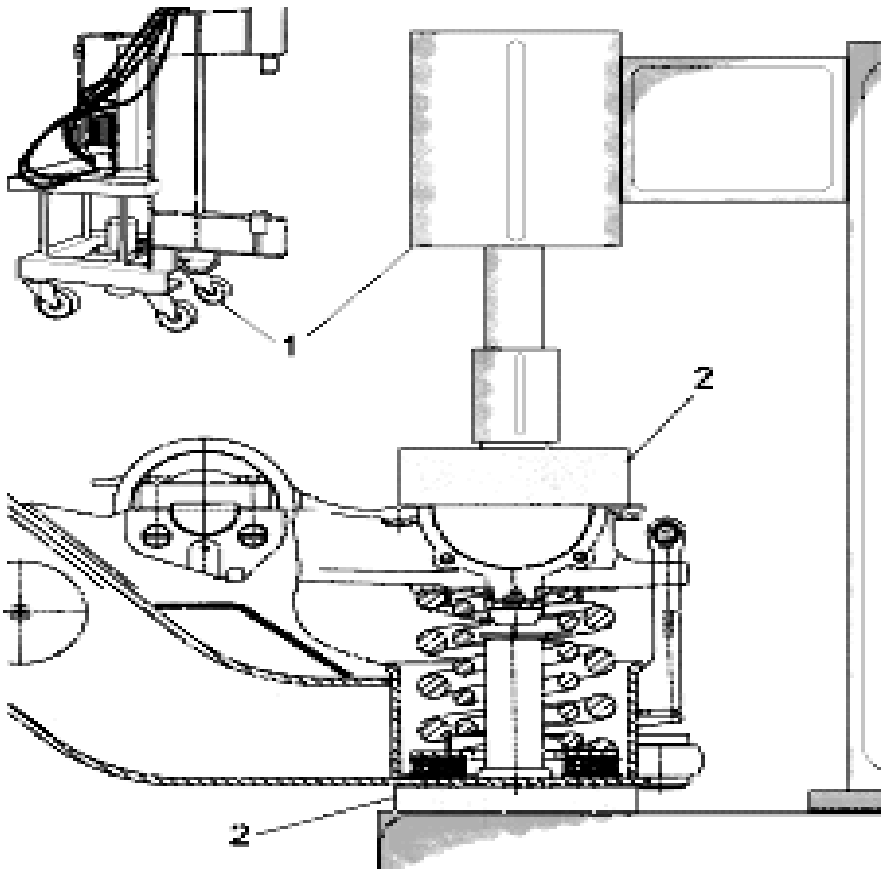

Fig. 3.20 Primary Suspension Under Press
In order to dismount the primary suspension, it is necessary to put it under press (Fig. 3-20). Before pressing, put wooden blocks (2) between the press (1) and the bogie, to avoid damaging the control arm and the frame.